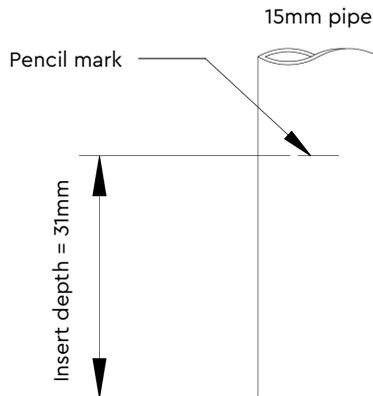

Figure 7
**Hot water supply:** The pump **must be** supplied with a **dedicated feed** direct from the hot water cylinder or storage tank, ensuring an air free connection to the pump. We recommend the use of either the side entry flange or a top entry flange (Part No 27800) see Figure 7.